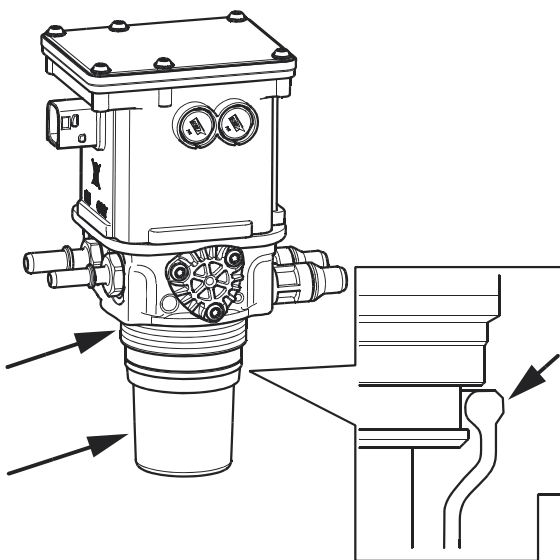

Figure 5-5-18 Lubricate Diaphragm and Threads
12. Lubricate the sealing diaphragm and threads with the accompanying spray. See Figure 5-5-18.